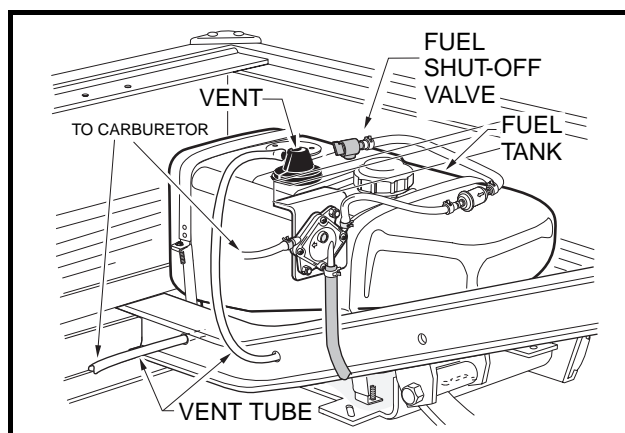
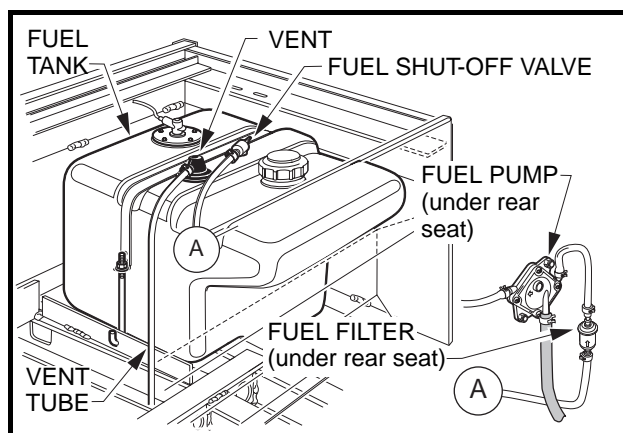

Figure 27 Fuel Tank – Turf 272/Carryall 272/XRT 1200
Figure 28 Fuel Tank – Carryall 472/XRT 1200SE
- If vehicle has an all-weather enclosure installed, be sure the fuel tank is properly vented as shown (Figure 27, Page 42 or Figure 28, Page 42).